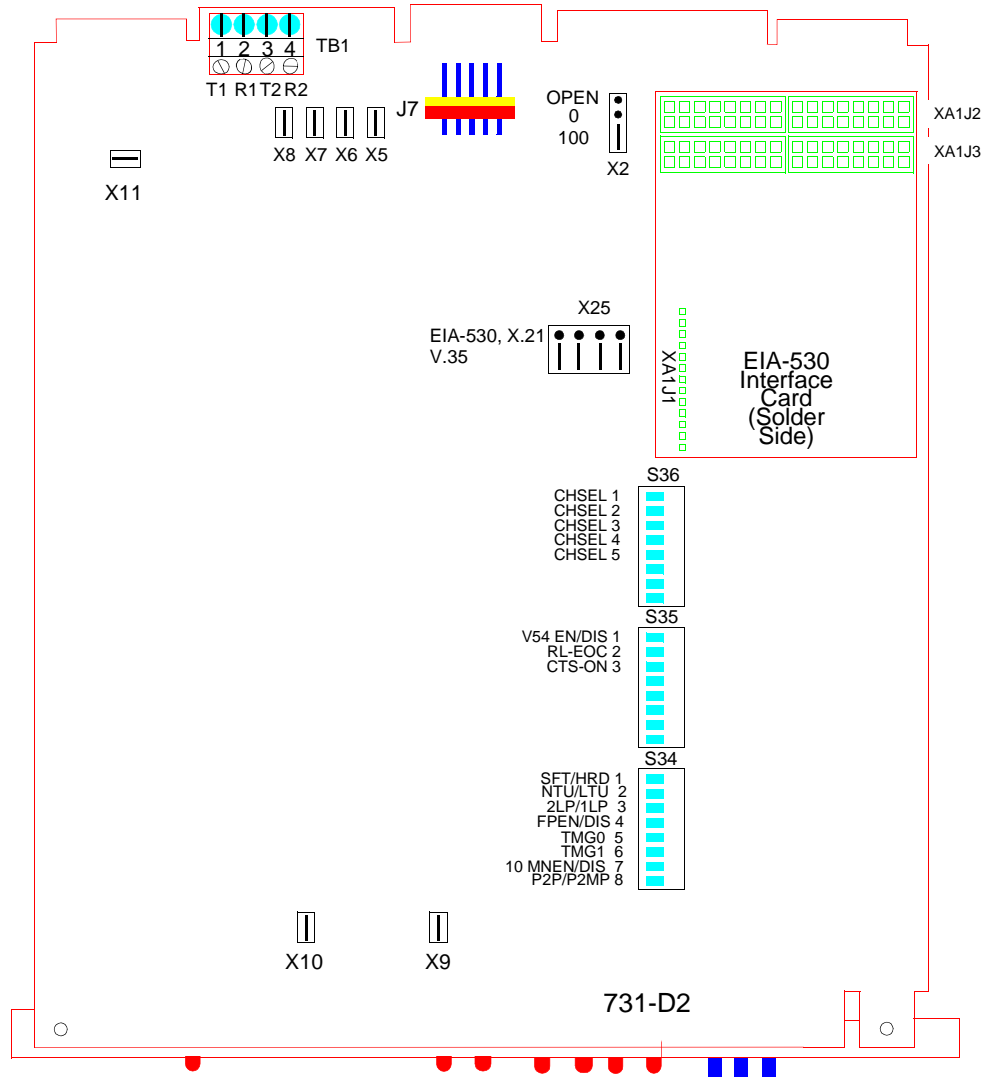

Figure 2-3 Option Switch and Jumper Locations, Basecard
Setting the hard options on the DataComm 731 basecard means adjusting configuration switches and jumpers to match your networks operation. Table 2-1 explains the functions of the switches and jumpers and Figure 2-3 shows their location. By switch S34-1, you choose the hard configuration option.
The optional EIA-530 (V.11) or X.21 Interface Card (either factory installed or available in a field upgrade kit) are interfaces for the DTE. The interfaces plug into the base card as shown in *Figure 2-3*. You must install the Jumper X25 in the correct position (*See Table 2-1*) when using the EIA-530 or X.21 interface cards. (You can also remove the card(s), shift the position of Jumper X25, and place jumpers on XA1J2 and XA1J3 to make the base card V.35 interface active.)
When you install the optional X.21 Interface Card in the active position, DTE control of Remote Terminal Test and Local Loopback is not supported. Following *Figure 2-3*, are three pages with pin breakdowns and signal exchanges of the EIA/TIA-232-E and ITU-T, EIA-530, and X.21 for business equipment. Optional transmit signal timing, X.21 Interface Card jumper position BT (Byte Timing), is not supported.
2. Set the remaining switches and jumpers according to *Table 2-1* and *Figure 2-3*. If S34-1 is